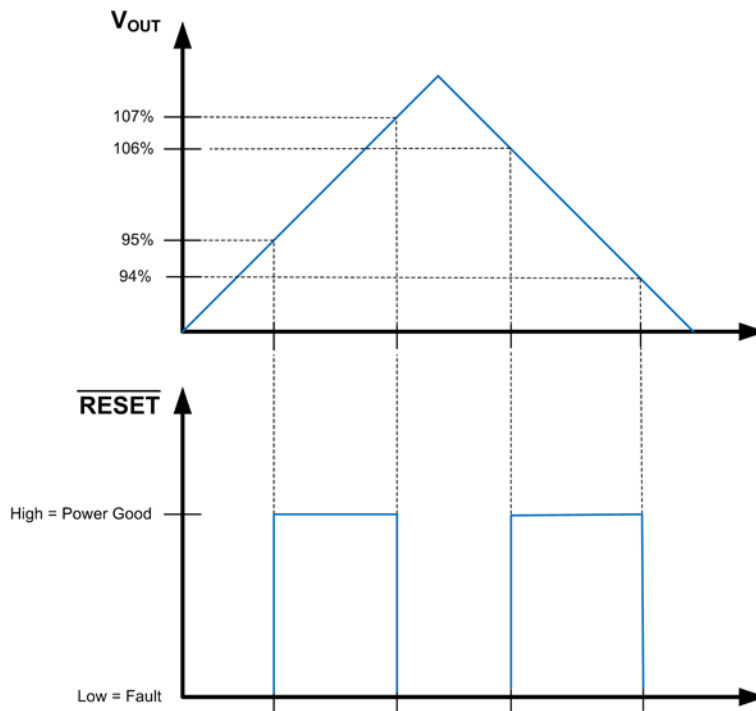
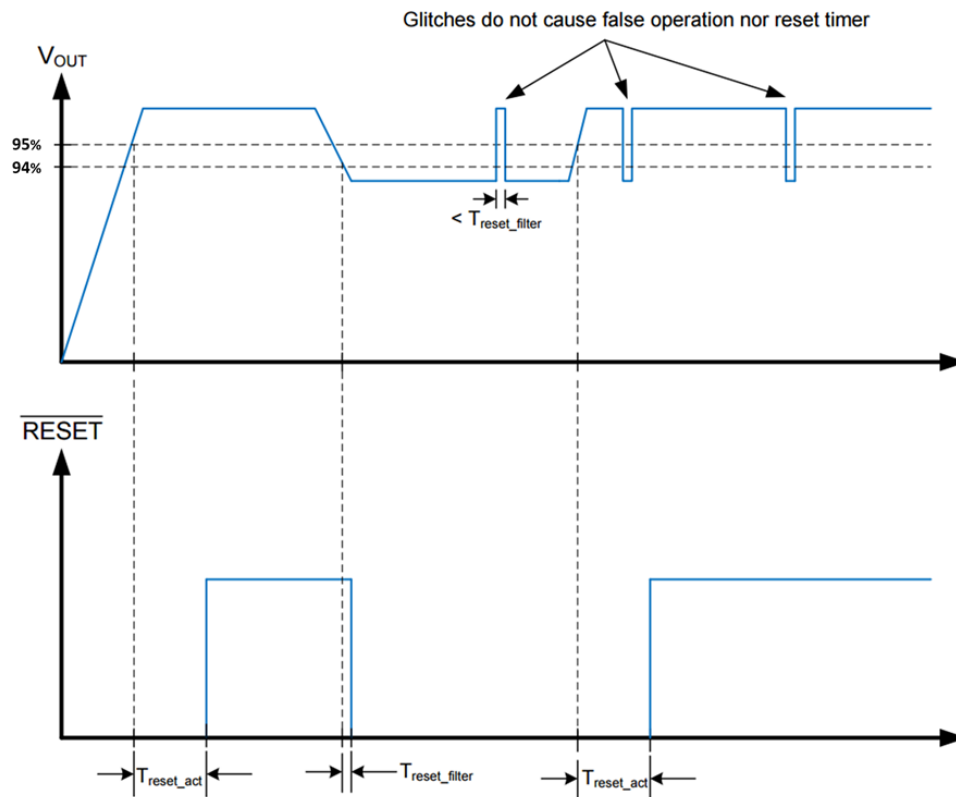
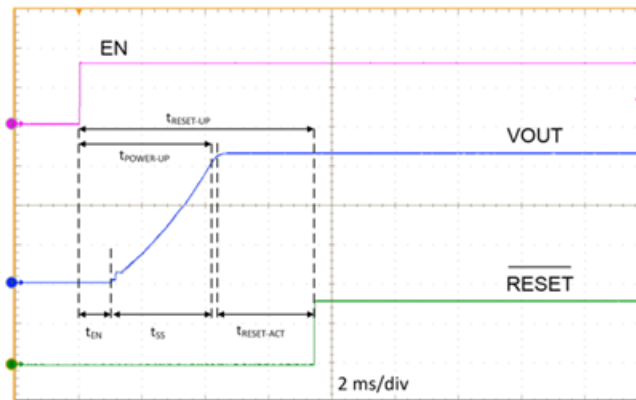

Figure 10. Static RESET Operation
Figure 11. RESET Timing Behavior
Figure 12. Typical Start-up Waveform
The  $\overline{\text{RESET}}$  function, built into the LM53625/35-Q1, has special features not found in the ordinary Power-Good function. A glitch filter prevents false flag operation for short excursions in the output voltage, such as during line and load transients. Furthermore, there is a delay between the point at which the output voltage is within specified limits and the flag asserts Power Good. Because the  $\overline{\text{RESET}}$  comparator and the regulation loop share the same reference, the thresholds track with the output voltage. This allows the LM53625/35-Q1 to be specified with a 96.5% maximum threshold, while at the same time specifying a 94 % worst case threshold with respect to the actual output voltage for that device. This allows tighter tolerance than is possible with an external supervisor device. The net result is a more accurate Power-Good function while expanding the system allowance for transients, and so forth.  $\overline{\text{RESET}}$  operation can best be understood by reference to Figure 10 and Figure 11. The values for the various filter and delay times can be found in Timing Characteristics. Output voltage excursions lasting less than  $T_{\text{RESET-filter}}$  do not trip  $\overline{\text{RESET}}$ . Once the output voltage is within the prescribed limits, a delay of  $T_{\text{RESET-act}}$  is imposed before  $\overline{\text{RESET}}$  goes high.
- A delay has been added for release of reset. See Figure 11 and Figure 12 for more detail.
Start-up and shutdown of the LM53625/35-Q1 are controlled by the EN input. Applying a voltage of  $\geq 2$  V activates the device, while a voltage of  $\leq 0.8$  V is required to shut it down. The EN input may also be connected directly to the input voltage supply. This input must not be left floating. The LM53625/35-Q1 utilizes a reference-based soft start that prevents output voltage overshoots and large inrush currents as the regulator is starting up. A typical start-up waveform is shown in Figure 12 along with timing definitions.
The waveforms shown in Figure 12 indicate the sequence and timing between the enable input and the output voltage and  $\overline{\text{RESET}}$ . From the figure we can define several different start-up times depending on what is relevant to the application. Table 3 lists some definitions and typical values for the timings.